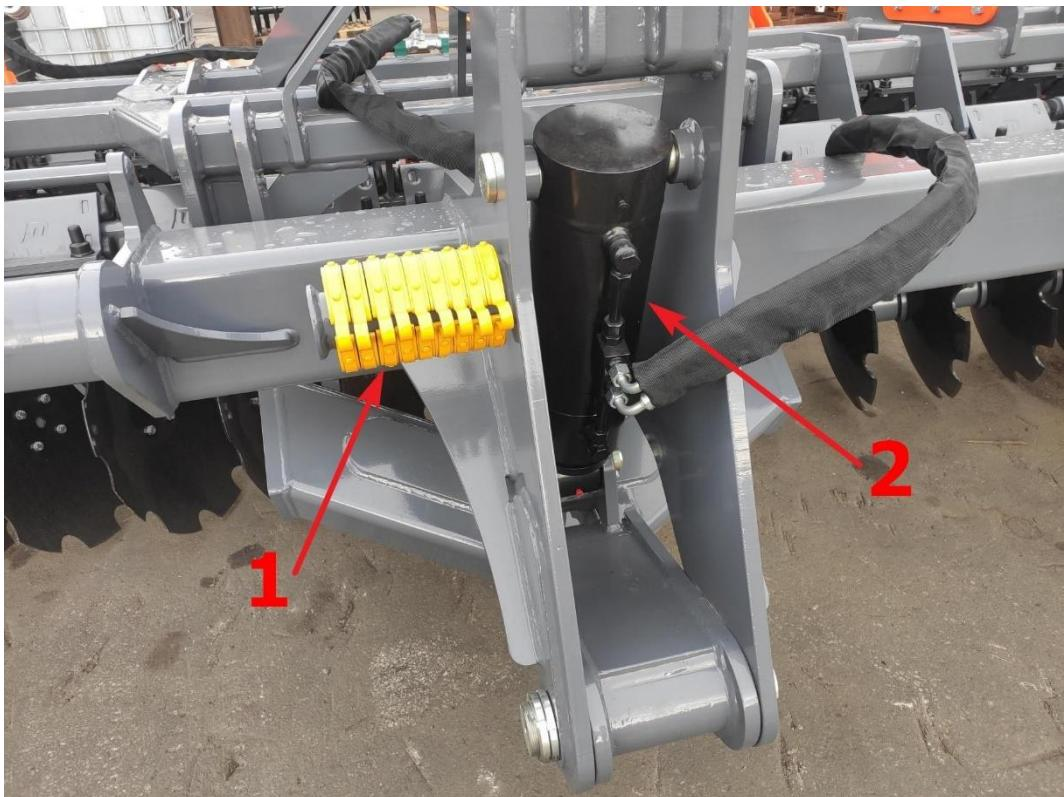

Figure 38 View of the machine wing hydraulic assembly; 1-safety clips, 2-actuator.
First of all, the appropriate working depth must be determined using the hydraulic actuators of the three-point linkage on which the disc harrows are suspended (item 1, fig. 38). There are special clips on the three-point frame designed to be fitted to the piston rod of the actuator to maintain the desired extension (item 2, fig. 38). As the actuator's extension is increased, its working depth is increased, and a decrease in extension results in a decrease in working depth. Clips (item 2, fig. 38), which are fitted to the piston rod of the actuator, are used to maintain the preset actuator extension.